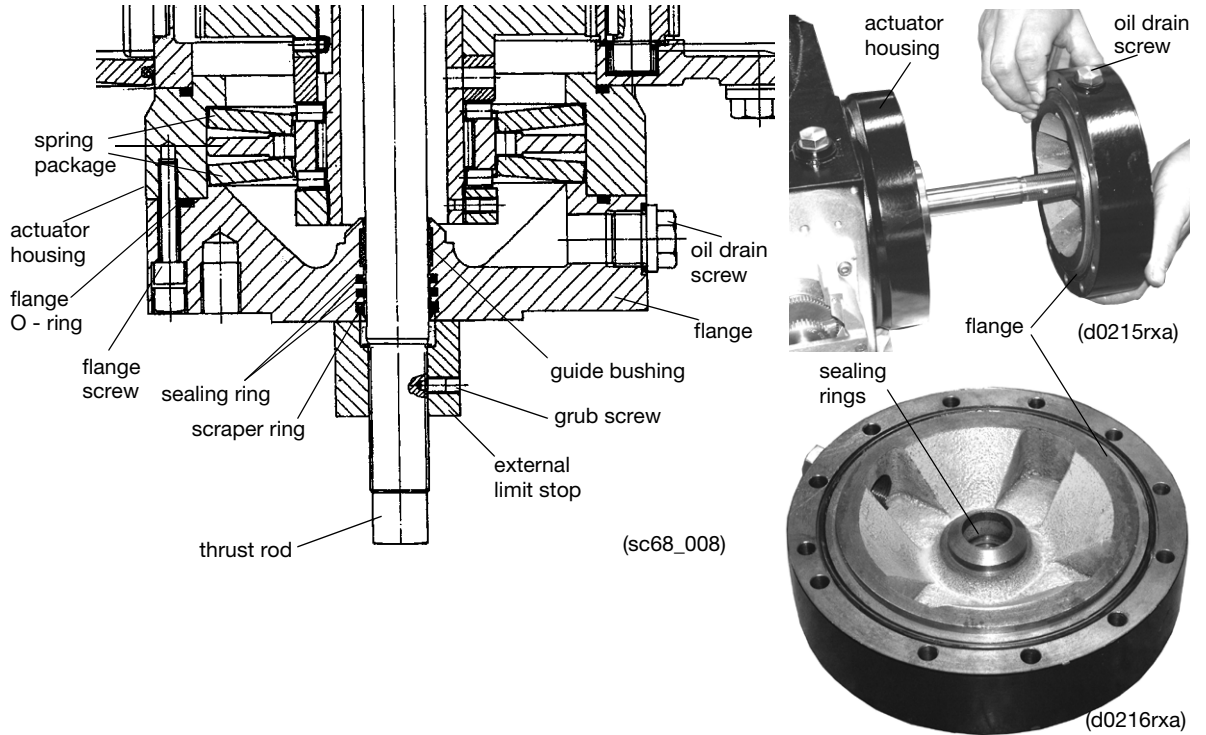

Fig. 6:
- Replace scraper rings, sealing rings and O-rings; see fig. 6 for mounting position.